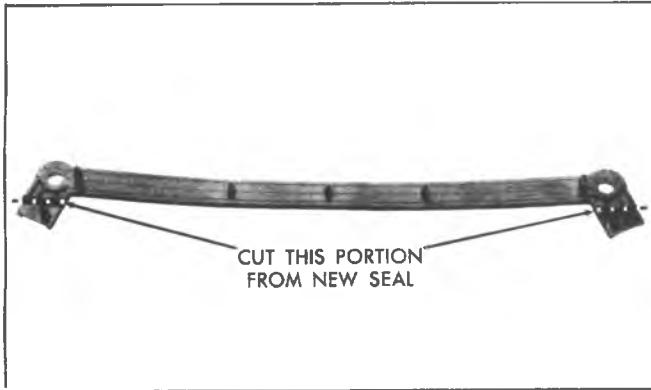

Fig. 6A5-32—Oil Pan Front Seal Modification
2. Cut tabs from the new oil pan front seal (fig. 6A5-32). Use a sharp instrument to ensure a clean cut.
5. Apply a 1/8" (3mm) bead of RTV sealer, #1052366 or equivalent, to the joint formed at the oil pan and cylinder block (fig. 6A5-33).